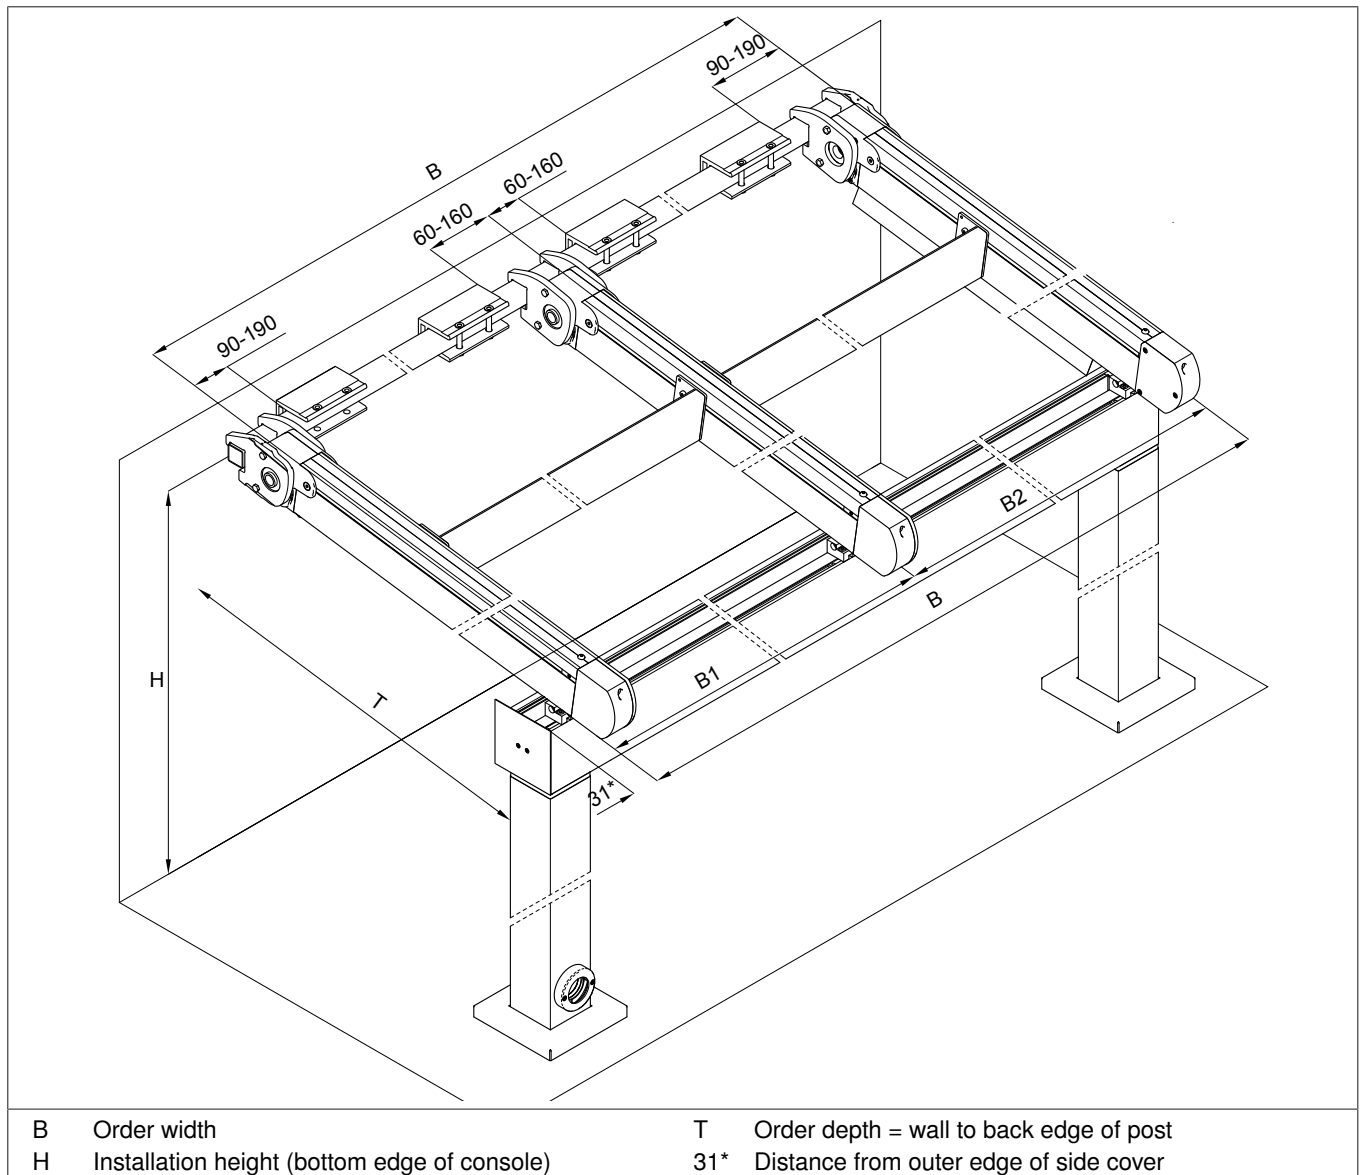

Fig. 2: Dimensional drawing of Perea P70 (all dimensions in mm)
- Transfer the position of the consoles to the mounting substructure (see Fig. 2). Make sure the markings are at the same height.
- Erect the portal. Centre the position (see Fig. 2/Page 6) and roughly align the portal with the bearing tube.